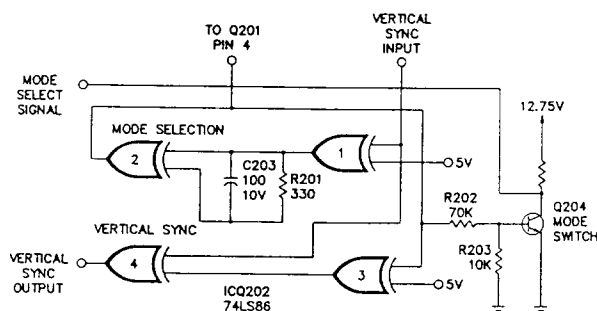

Figure 5-5. Mode Selection Partial Schematic
The main functions of the mode selection circuitry are to (1) provide a signal at the mode line to control various electronic switches throughout the monitor, and (2) to pass the vertical sync signal on to the horizontal/vertical processor, IC Q401. Each function is described in turn. Figure 5-5 contains a partial schematic of the mode selection circuitry.